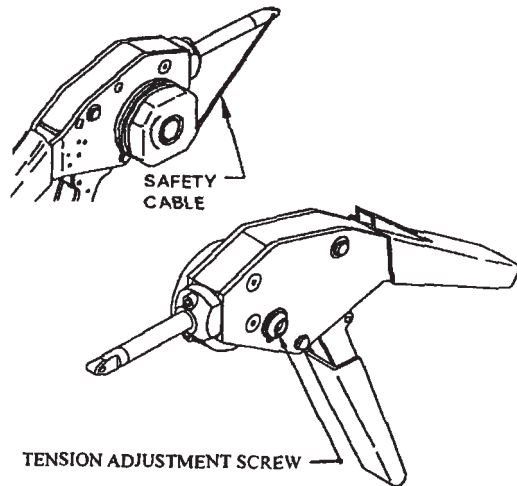

Figure 7-24. Adjustable Tension Safety Cable Tool
b. *Adjustable Tension Tool.* (Figure 7-24.) Thread the safety cable through the fastener, ferrule, and tool nose in the same way as with other models. Wrap the cable one full revolution (clockwise) around the tension wheel, and with slight pressure applied by pulling the cable, secure the cable into the slot. Rotate the tension knob until several clicks are heard and felt. If additional tension is required, adjustment can be made with the tension adjuster on the opposite side of the tool.